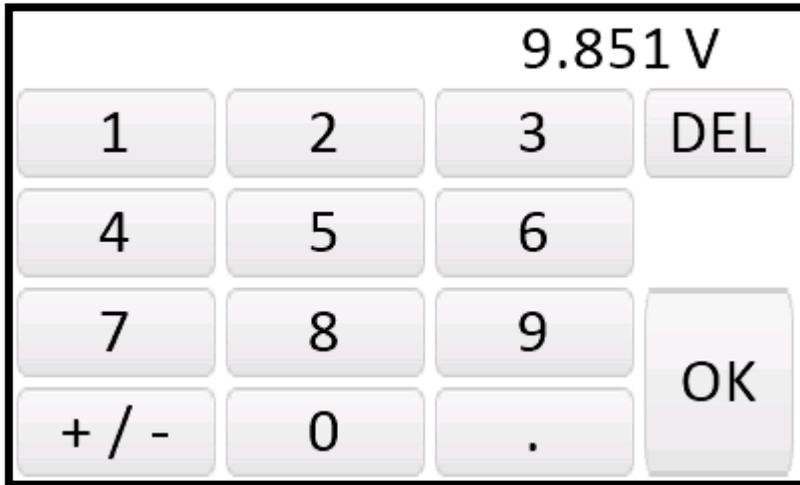

Figure 7. MAXREFDES183# voltage output setting.
- The next screen will ask the user to enter a voltage (**Figure 7**). Please enter a voltage between - 12.5V and +12.5V. Note for best accuracy, stay within the range of -10.5V and +10.5V. Once done, click **OK**. The voltage will be applied between the GND and UIO banana plugs.